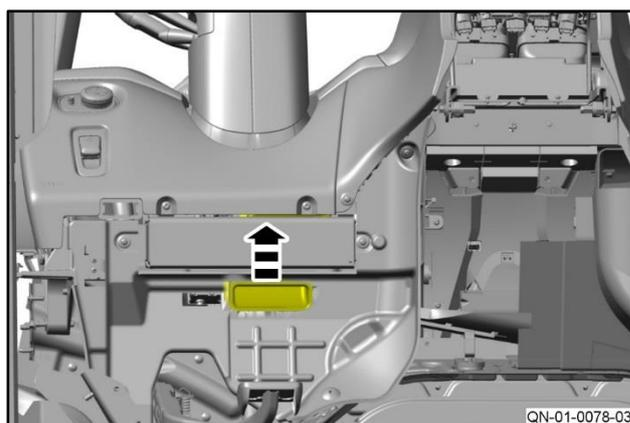

Figure 5
3. Move the vent duct to get access to the steering column (refer to Figure 5).